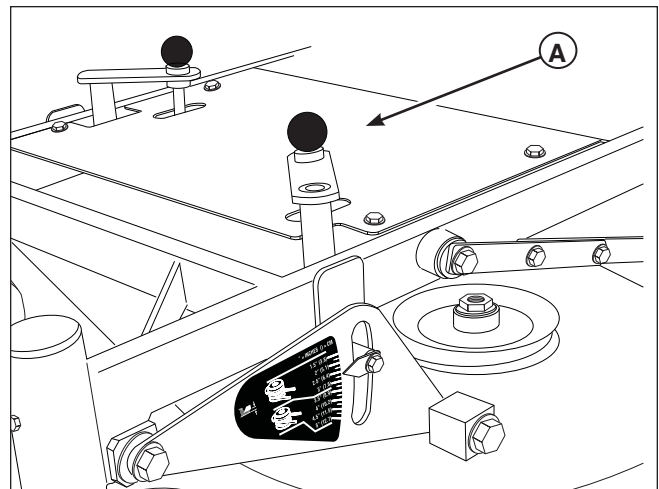

Figure 4. Remove the Cutter Deck Guard
1. Remove the mower deck guard (A, Figure 4) to gain access to the mower deck drive belt.